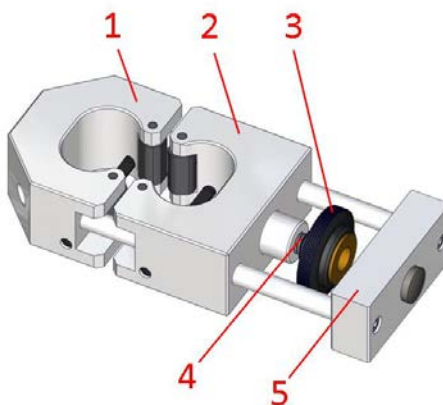
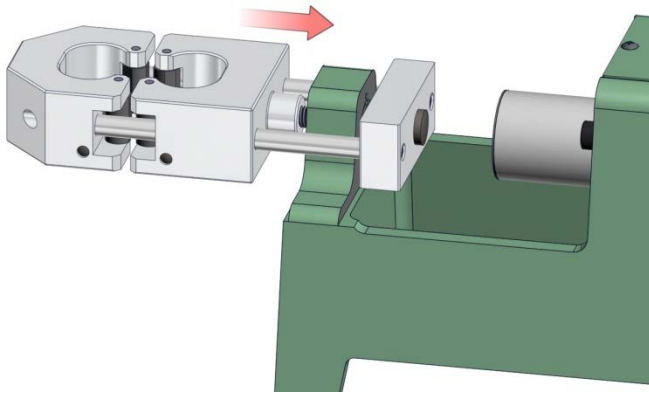

Figure 5.5.1
Figure 5.5.2
1. Remove the large Knurled Knob (Item 3, Figure 5.5.1) from the large set screw (Item 4, Figure 5.5.1) of the Cold Tensile Strength Accessory.
2. Gently slide the boss and set screw at the rear of the Right Tooling Jaw (Item 2, Figure 5.5.1) through the hole in the Base of the Universal Strength Machine. See Figure 5.5.2 below.
3. With the Left and Right Tooling Clamps (Items 1 and 2, Figure 5.5.1) pressed together, insert a standard dog bone tensile sand specimen between the tooling pieces. (See Figure 5.4.4).